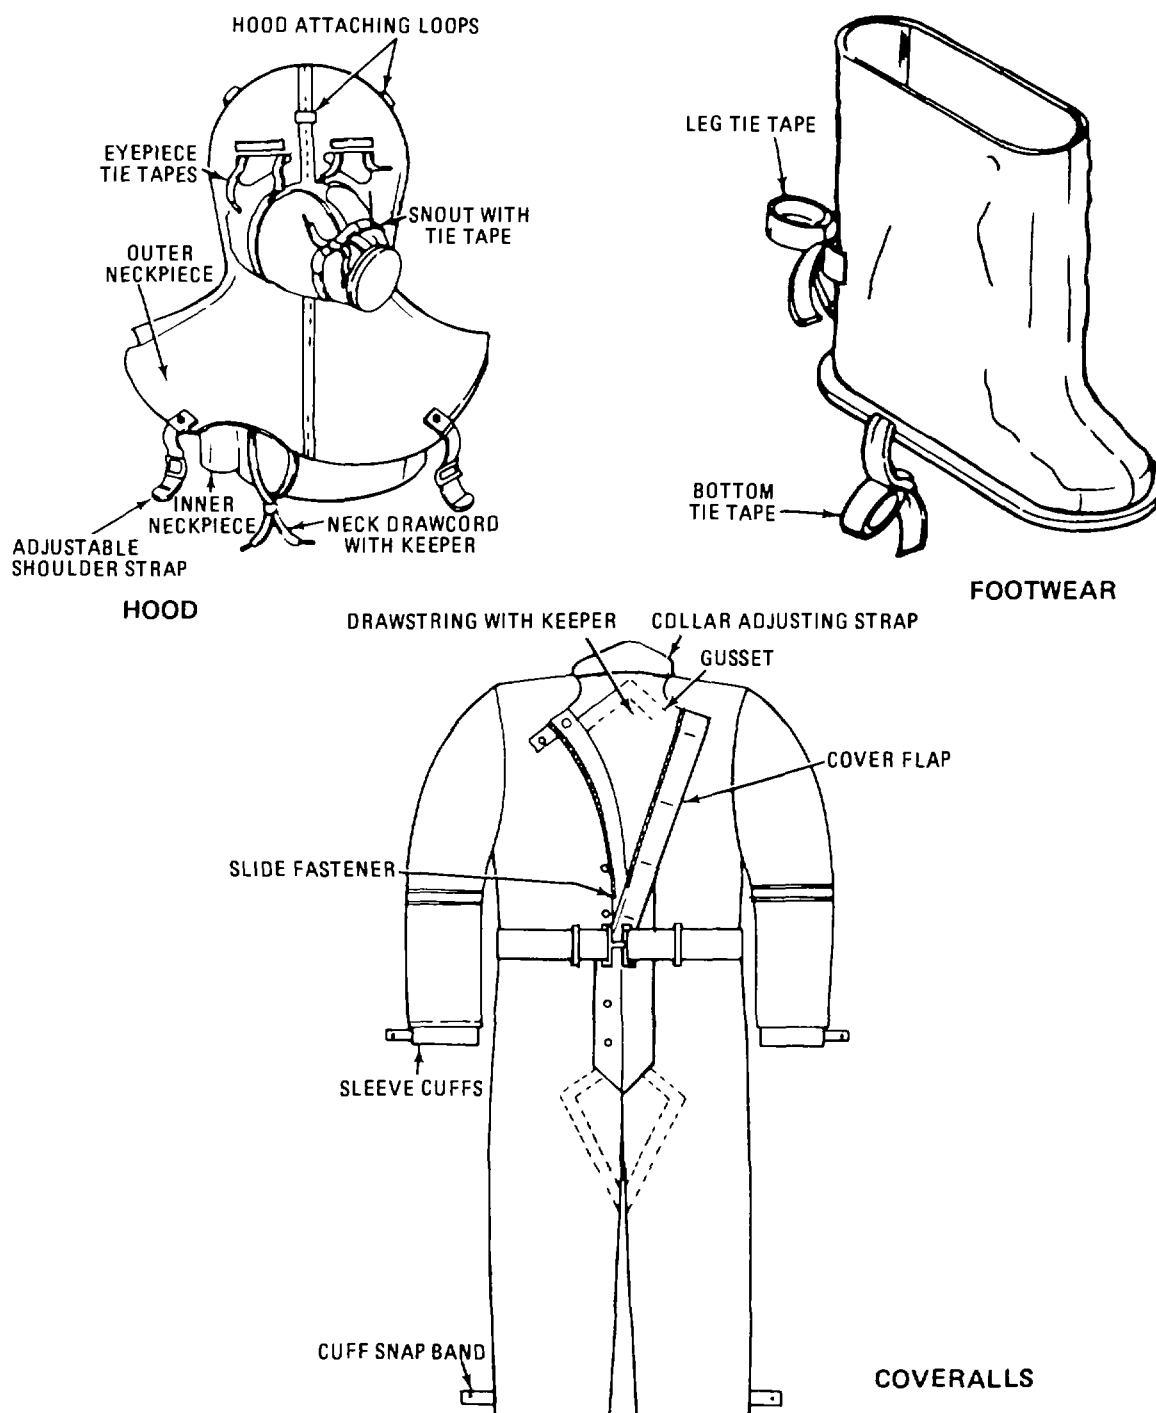

Figure 11-3. Toxicological Agent's Protection Clothing
(1) Coveralls, toxicological agents' (fig. 11-3).
(2) Hood, gas mask, toxicological agents' protective (fig. 11-3)
(3) Footwear cover, toxicological agents' protective (fig. 11-3).